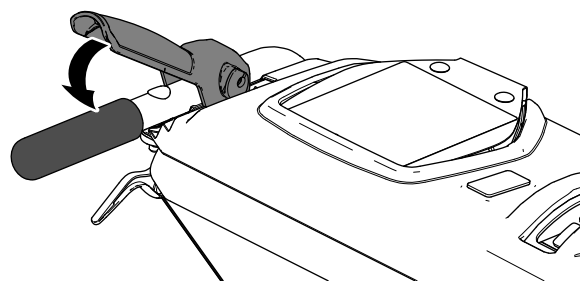

Figure 14
2. Slowly squeeze the traction-drive lever to the left handle (Figure 14).